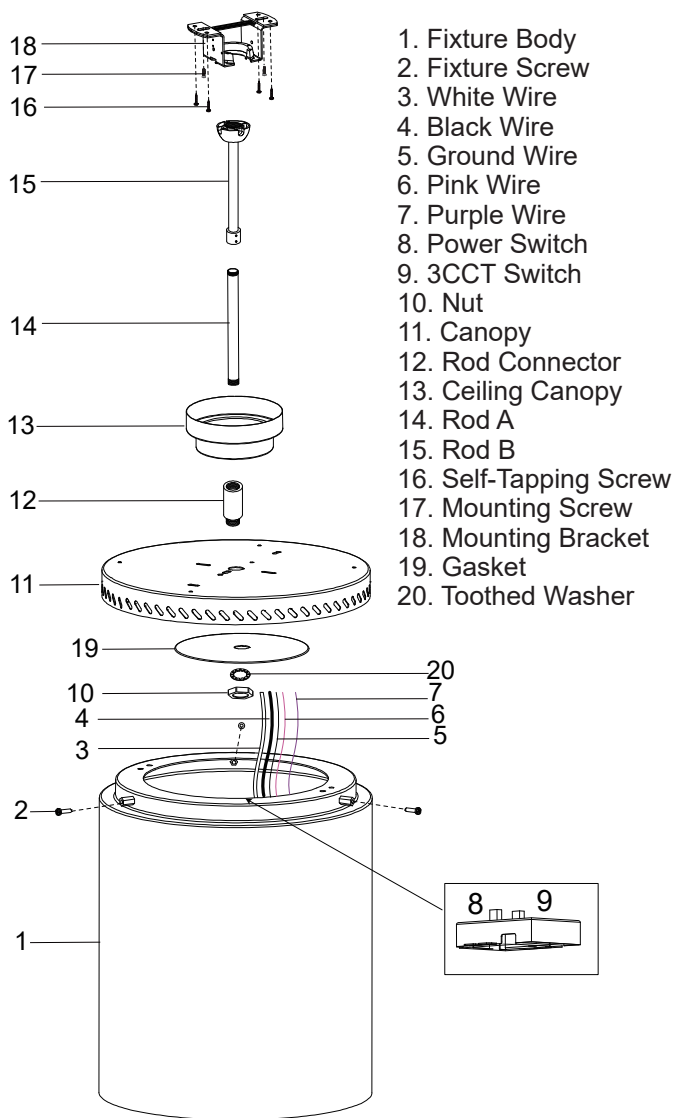

FIG 1
1. Turn off power at the circuit breaker and the light switch. Ensure the power is off before continuing(see figure 1).
2. Remove fixture screw (2), remove canopy (11) from fixture body (1) (see figure 1).
3. Use mounting bracket (18) to position the self-tapping screw (16) hole and drill 1/4 inch with a drill bit. Then fix the mounting bracket (18) on the ceiling through the self-tapping screw (16) (see figure 1).
4. Fix the mounting bracket (18) to the junction box with the mounting screw (17).The mounting screw (17) do not need to be locked, and 2/3 of the screws are exposed (see figure 1).
5. Pass the wires through nut (10), gasket (19), toothed washer (20),canopy(11), rod connector (12), ceiling canopy(13), rod A(14) and rod B(15) in sequence.
6. The power switch (8) can be dialed to select the appropriate wattage.The 3CCT switch (9) can be dialed to adjust the appropriate color temperature (3000K/4000K/5000K)(see figure 1).
7. Connect rod connertor (12), canopy (11), gasket (19), and toothed washer (20) through nut (10)(see figure 1).
8. Connect rod A (14) to rod connector (12), and connect rod B (15) to rod A (14) (see figure 1).
10. Make all wire connections to appropriate wire (see figure 1). Secure with wire nuts.